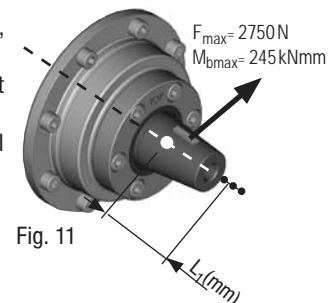

Fig. 11
- The force applied at the force engagement point by the belt tension (see Fig. 11) must not exceed $F_{\max} = 2750 \text{ N}$.
- If the force engagement point shifts forwards (see Fig. 11, small point), the force F_{\max} reduces as per the following formula: